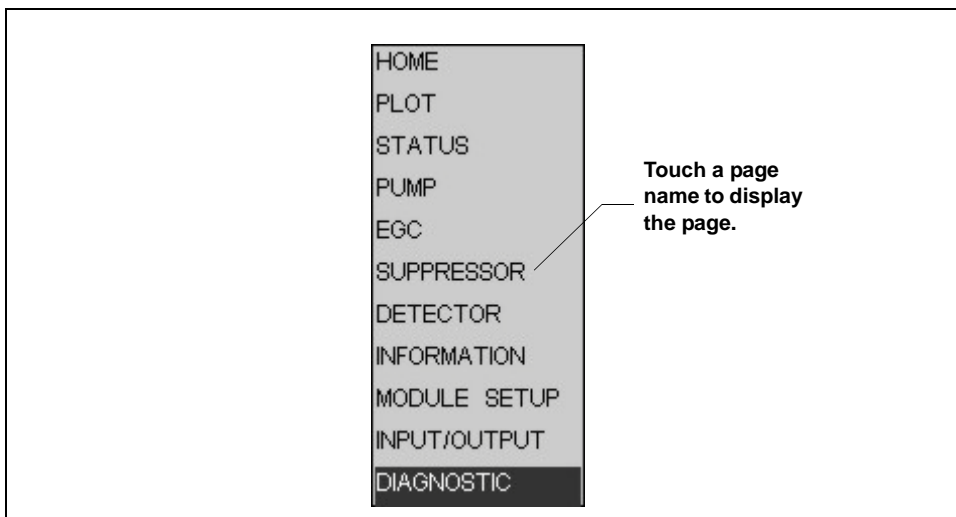

Figure 2-4. Dionex ICS-2100 Touch Screen Menu of Pages
- Touching the page name (for example, ) in the bottom right corner opens a menu of pages (see Figure 2-4).